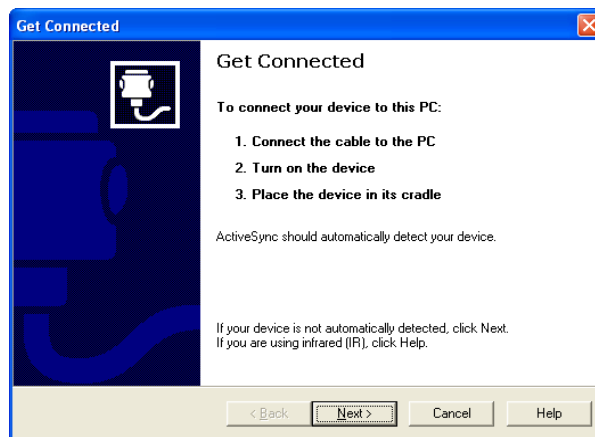

Figure 5.3
3. Hold the installation when the menu in Figure 5.3 is displayed.